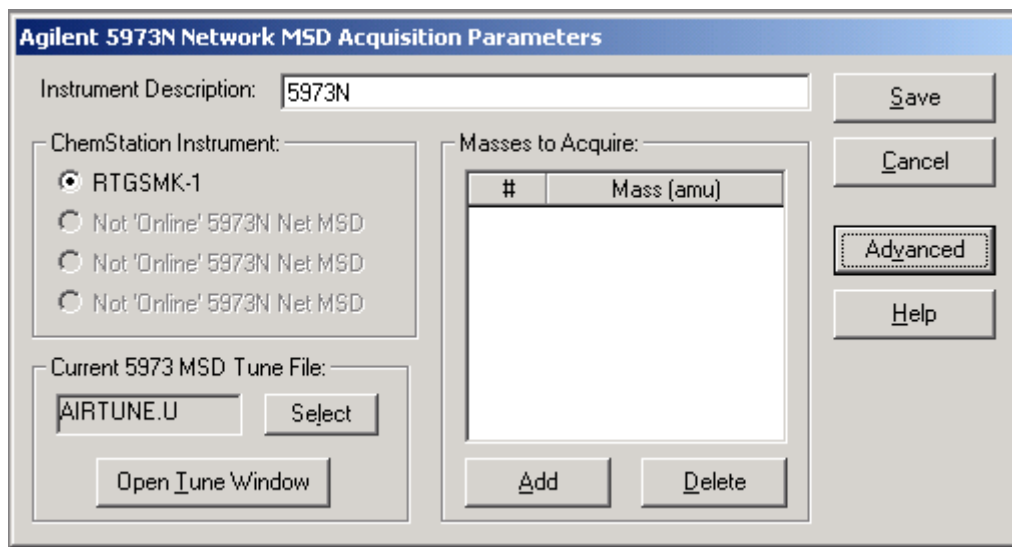

Figure 8 MSD Parameters
- 4 Select **Agilent 5973N Network MSD** from the **Instrument Type** drop-down window. Select **Add** and the **MSD Acquisition Parameters** window opens (Figure 8).